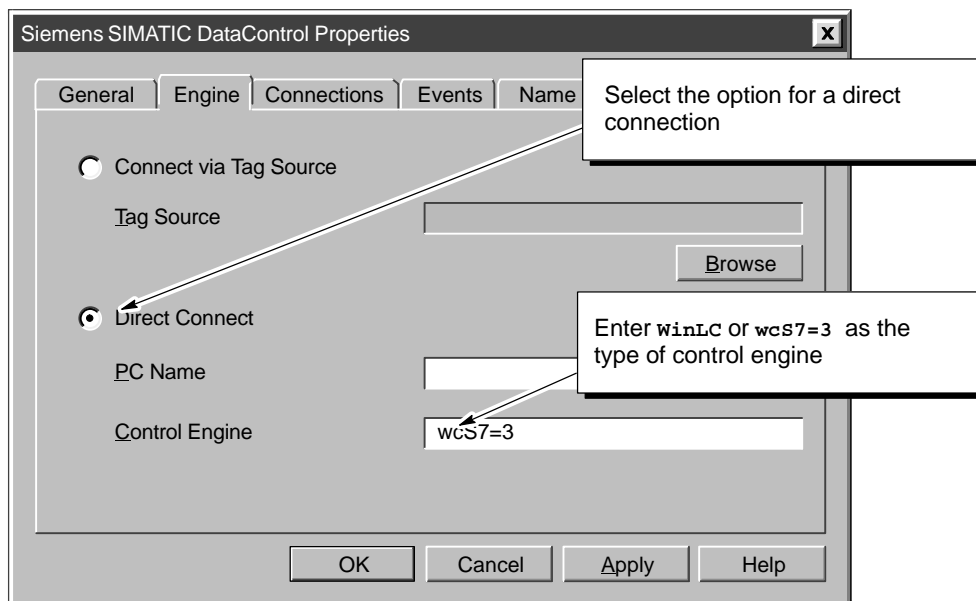

Figure 1-14 Connecting to the Control Engine (Label Control Example)
1. Select the "Engine" tab to configure the control engine. See Figure 1-14.